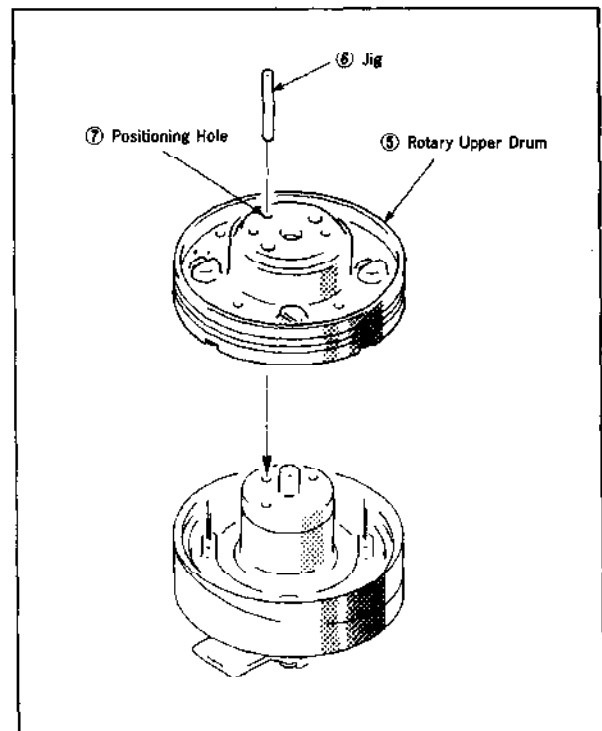

Fig. 30
- 1) Wipe clean the flange surface and the rotary upper drum ⑤ surface that makes contact with it, and confirm that they are free from dirt and scratches.
- 2) Insert the jig ⑥ (Ref. No. J-8) into the drum positioning hole ⑦. (Fig.30)